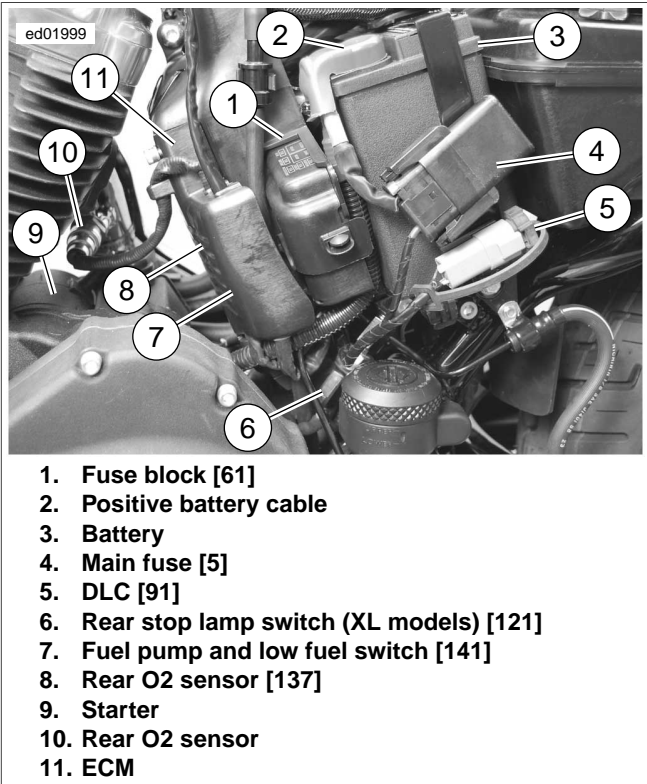

Figure 4-5. Under Left Side Cover: XL
See Figure 4-5. The speedometer (XL) or tachometer (XR) receives battery power at terminal 5 and ignition power at terminal 1. This is supplied through the battery fuse and the ignition fuse located in fuse block [61]. Accessory power is supplied through the ACCY fuse at terminal 6.